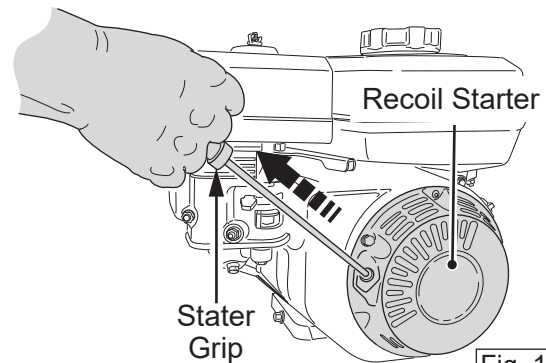

Fig. 16
6. Pull the starter grip lightly until you feel resistance. Then, pull it briskly in the direction of the arrow as shown below. (Fig. 16)